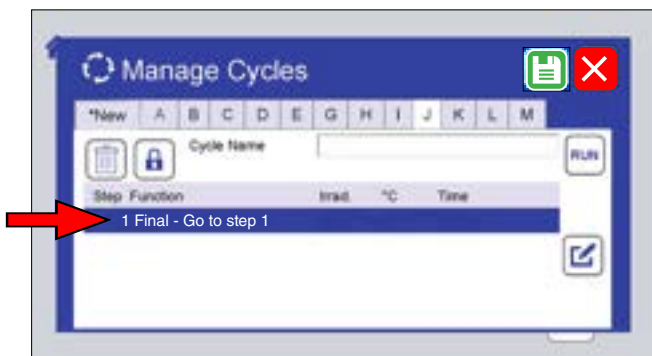

Figure 7.4: An empty cycle is created with only a final step (Section 8.7).
- Every test cycle must have a “Final - Go to step 1” step (Figure 7.4).